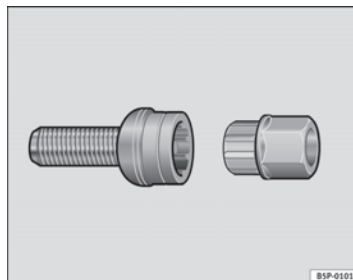

Fig. 180 Anti-theft wheel bolt
- Insert the adaptor onto the wheel bolt and push it on as far as it will go ⇒ page 264, fig. 180.